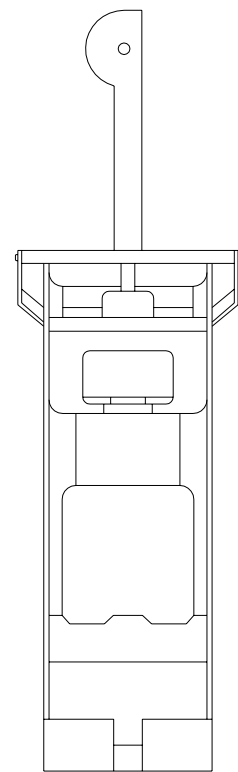

Figure 6-1c
- b. While holding the handle, place the lever in the lower raised vertical position (See Figure 6-1c).